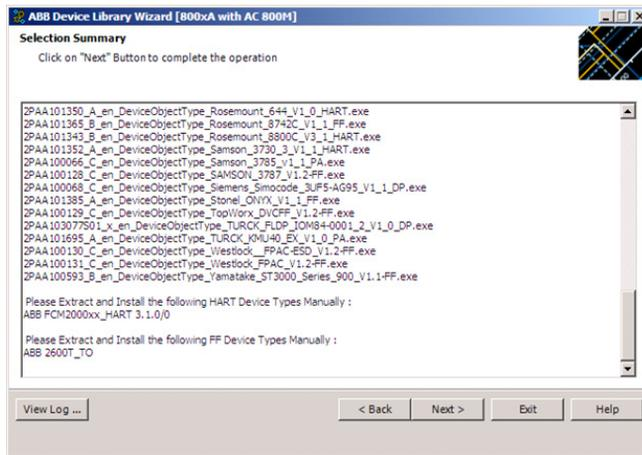

Figure 12. List of Files to be Manually Installed
- There may be some Object Types that are either customer created, or are the latest Device Types downloaded from ABB SolutionsBank. These will not be available on the DVDs. The Device Library Wizard will prepare a list for these Device Types (Figure 12). Install these Device Types manually.